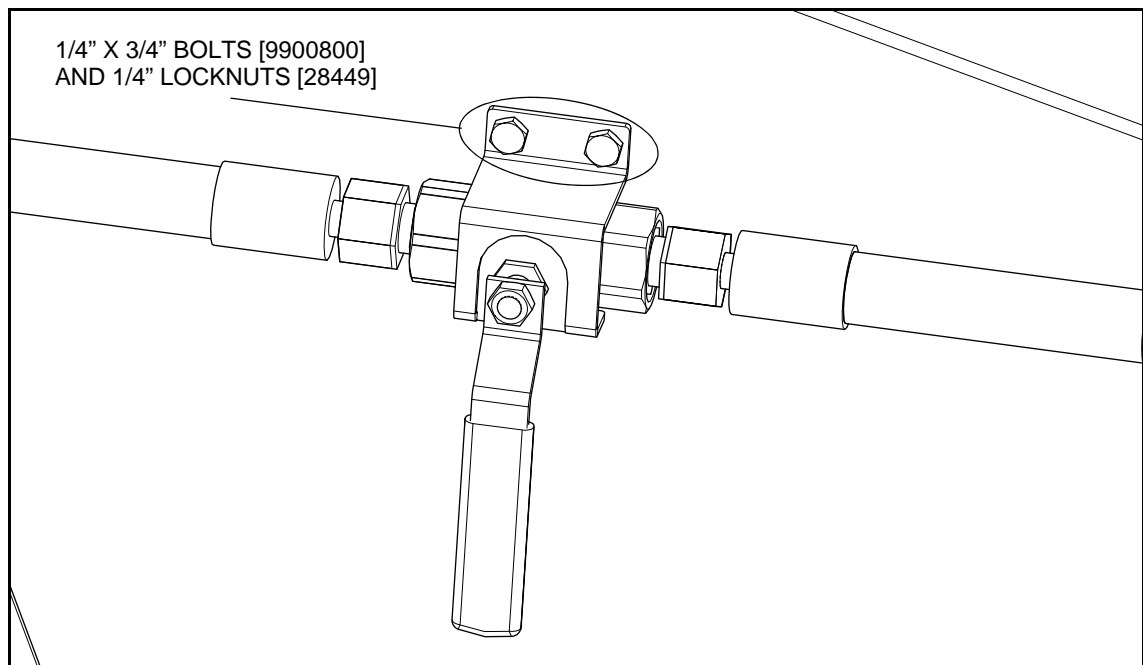

Figure 3.34 Installing the Ball Valve on the Boot
2. At the boot, install the ball valve on the pressure hose, and secure the valve to the boot using the ball valve bracket and two 1/4" x 3/4" bolts and locknuts (see Figure 3.34).